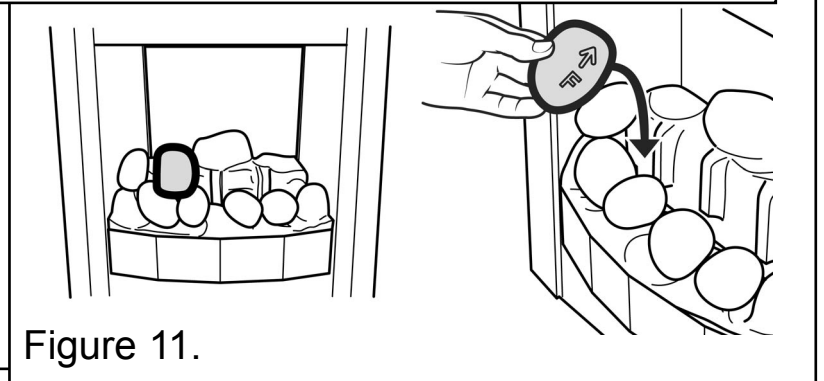

Figure 11.
8. Hold pebble 'F' upright with the arrow pointing to the top. Place pebble 'F' between the front and rear base pebbles. It should rest on top of pebble 'A' & 'B'. (See figure 11).